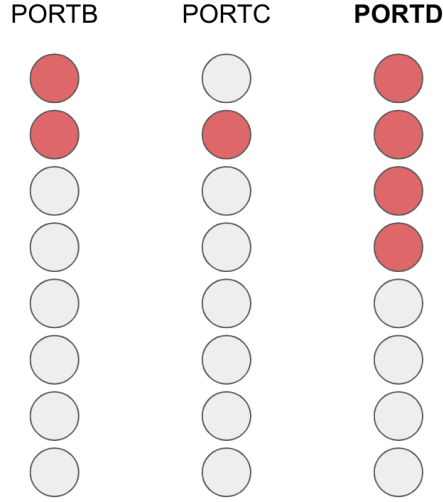

Figure 7: PORTD is selected, playtime is calculated, and countdown is started.
- RE4 is pressed and released again to select PORTD. This triggers the calculation of playtime and stops the blinking. Values for PORTB, PORTC and PORTD should be fully visible. With level point 2 and "defend" action, the calculation is done as $2 \times 1\text{second} = 4 \times 500\text{ms}$ and 4 LEDs are turned on as shown in Figure 7.